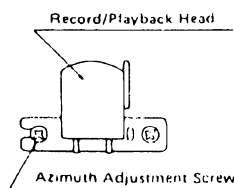

Figure 8
- Adjust the azimuth adjustment screw for maximum output. (See Fig. 8)